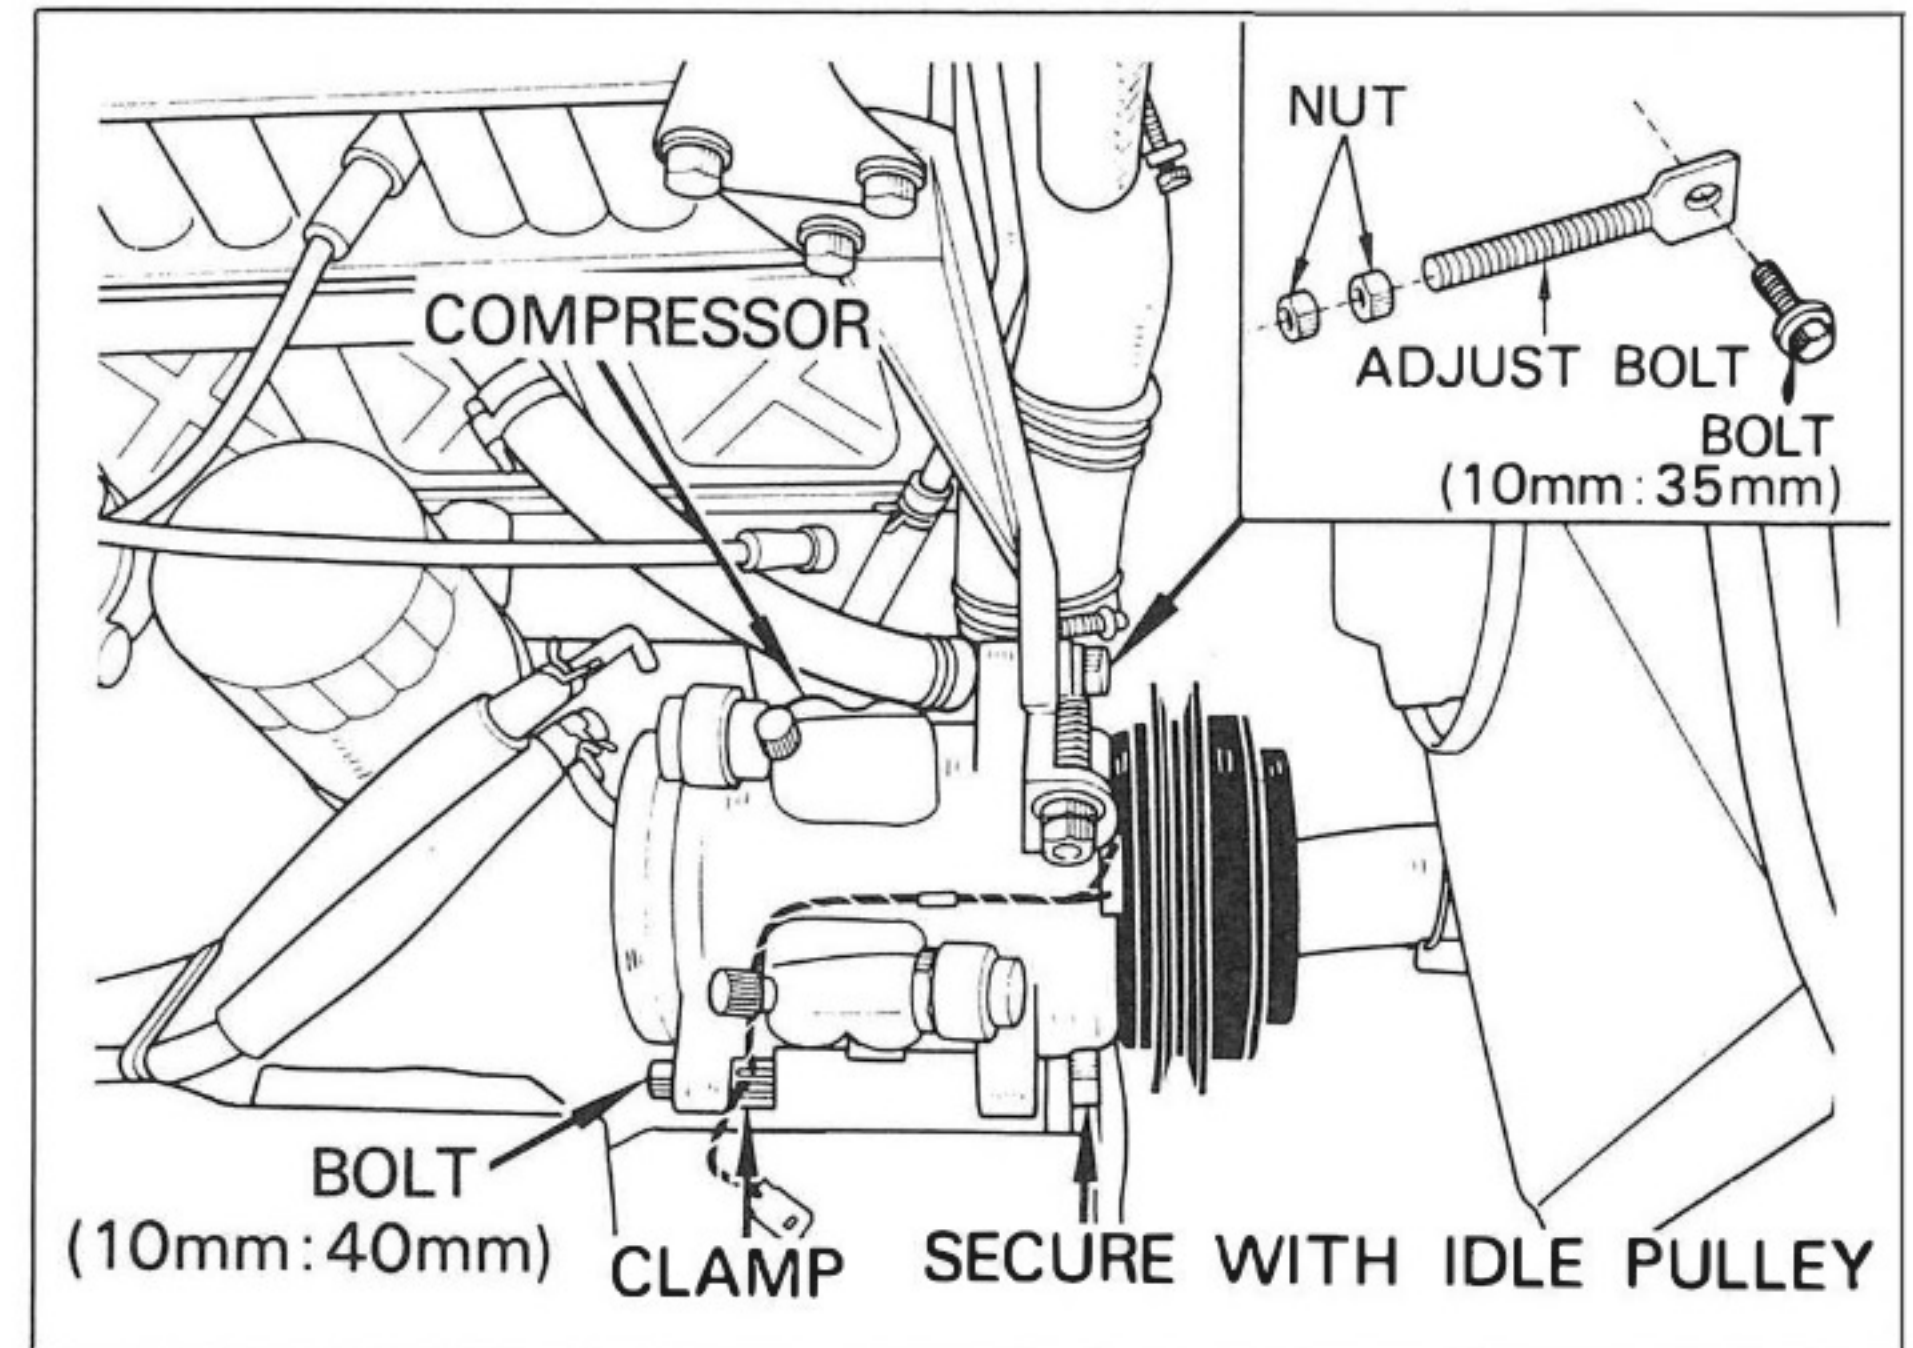

Fig. 23
- B) Install the wire clamp the compressor boss as shown in Fig. 23.